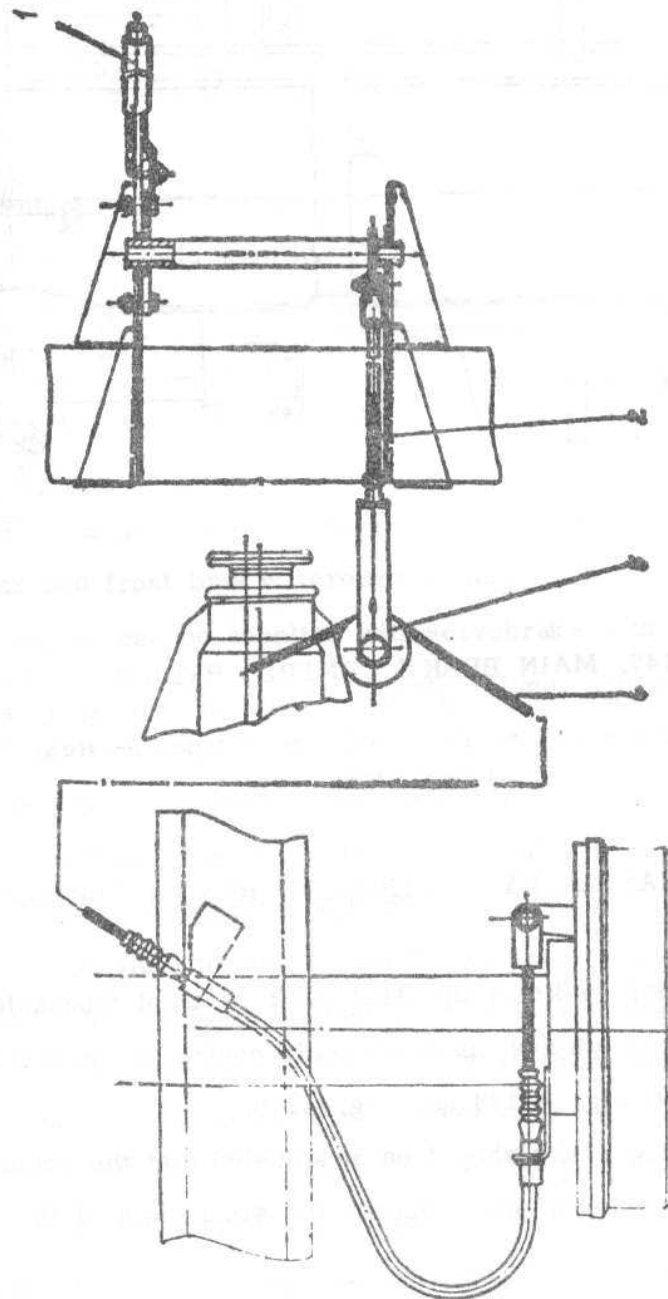
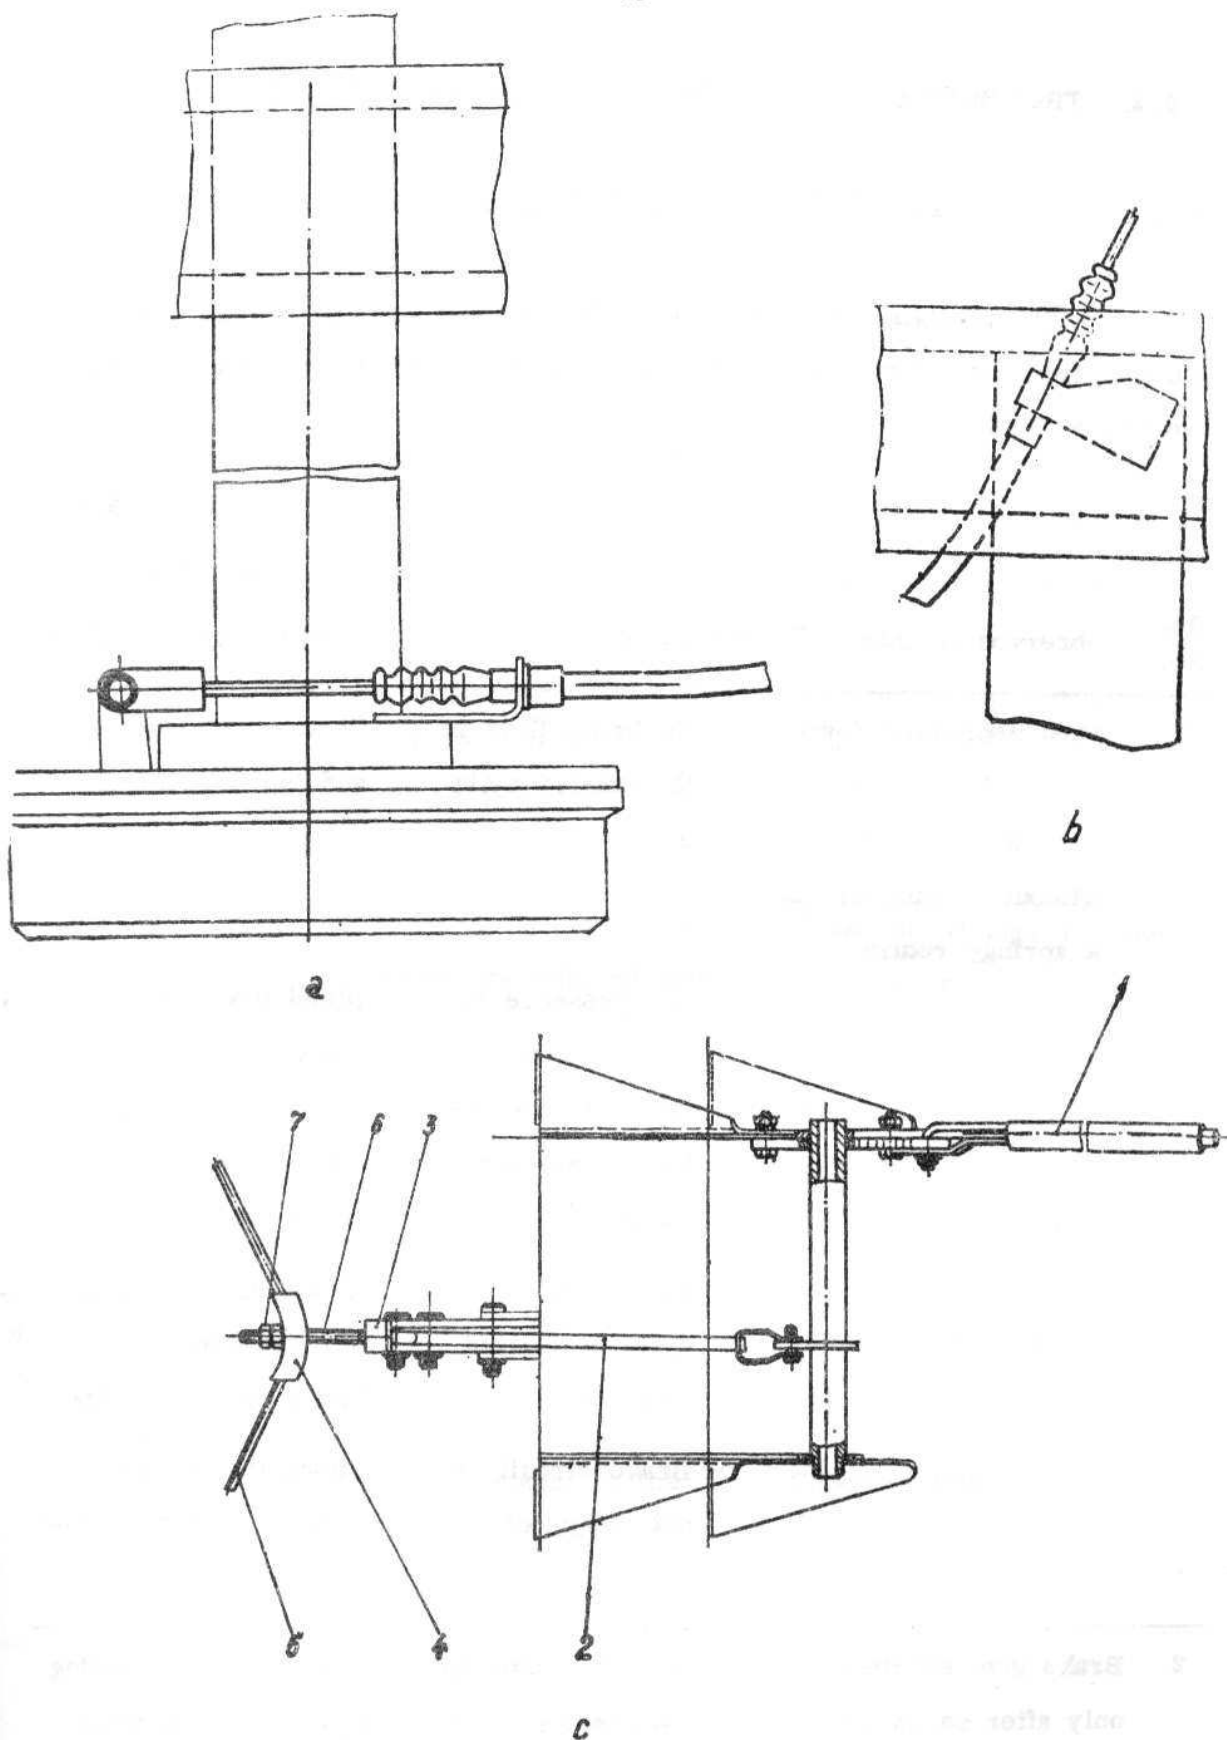

Fig. 4.148. HAND BRAKE CONTROL - TYPE I
Fig. 4.149. HAND BRAKE CONTROL - TYPE II
The parking brake of the ARO vehicles is of mechanical type and actuates only the rear wheels. It is normally controlled by the agency of a hand lever (1) - see Fig. 4.148 and Fig. 4.149.
- Unscrew conternut and adjusting sleeve from the brake control rod (2) - see Fig. 4.148 - and remove the fork and brake pulley assy; now the brake cable is completely free.